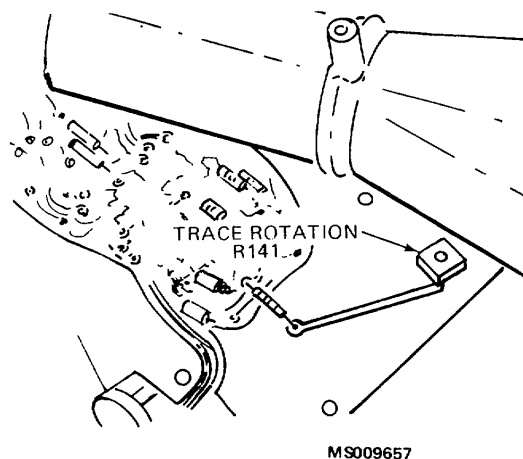

Figure 4-2. Location of Trace Rotation adjustment.
c. ADJUST-Trace Rotation, R141 (see Fig. 4-2) so the trace is parallel with the center horizontal graticule line.